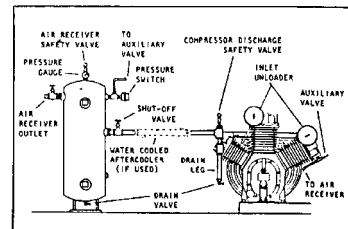

Figure 2-3. Typical piping arrangement for compressor and detached receiver.
The following general instructions cover only the installation of discharge piping and placement of safety valves, pressure switch, pressure gauge, auxiliary valve, drain valves, shut-off valves, etc. in systems using a detached receiver. See Figure 2-3. Discharge piping should be the same size as the compressor discharge connection or the receiver discharge connection(All
1. If possible, run the piping down from the compressor discharge to permit the condensate to drain into the receiver. If this is not possible, Install a "drain leg" as shown in Figure 2-3. The drain leg should project down from the compressor discharge and be at least 10" (254 mm) long.